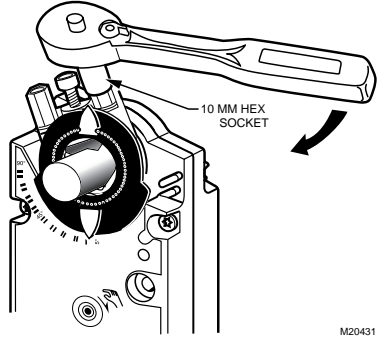

Fig. 4. Tighten the coupling hex screws.
2. Tighten the coupling hex screws (see Fig. 4) to 88 lb-in. (10 Nm).